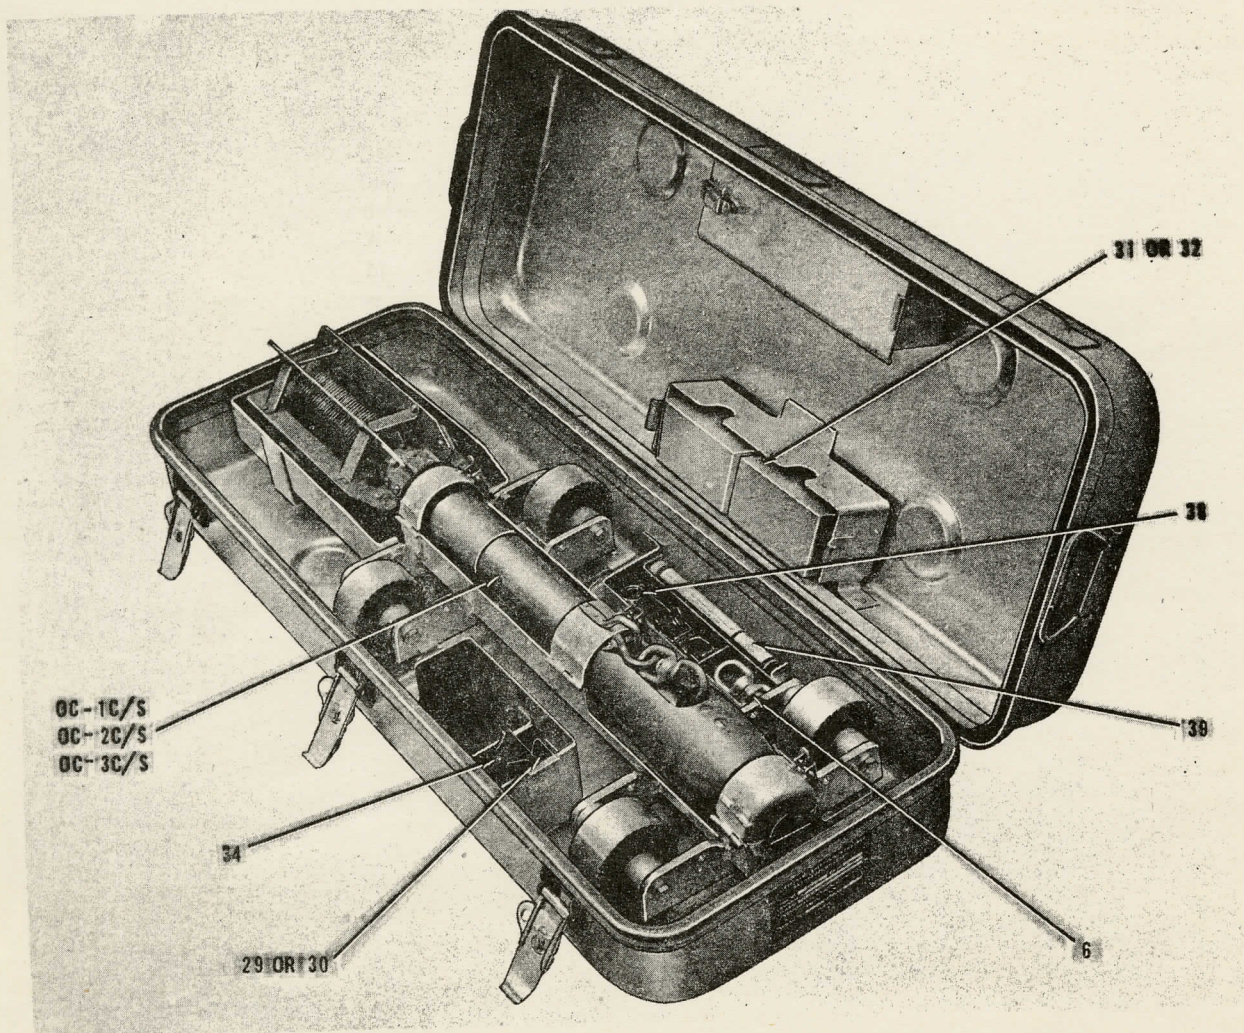

Figure 1-1. Bathythermograph OC-1C/S, OC-2C/S or, OC-3C/S in Carrying Case
a. BT AS AN INSTRUMENT. The BT (figure 1-1) is an instrument for obtaining a permanent, graphical record of water temperature and corre-